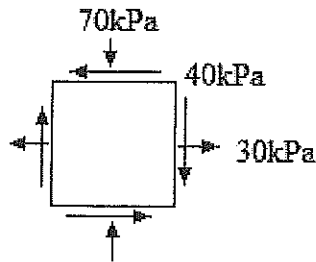

Fig. A5
5. For the state of plane stress shown in Fig. A5, the angle between the horizontal plane and the maximum shear stress plane, in degrees is: